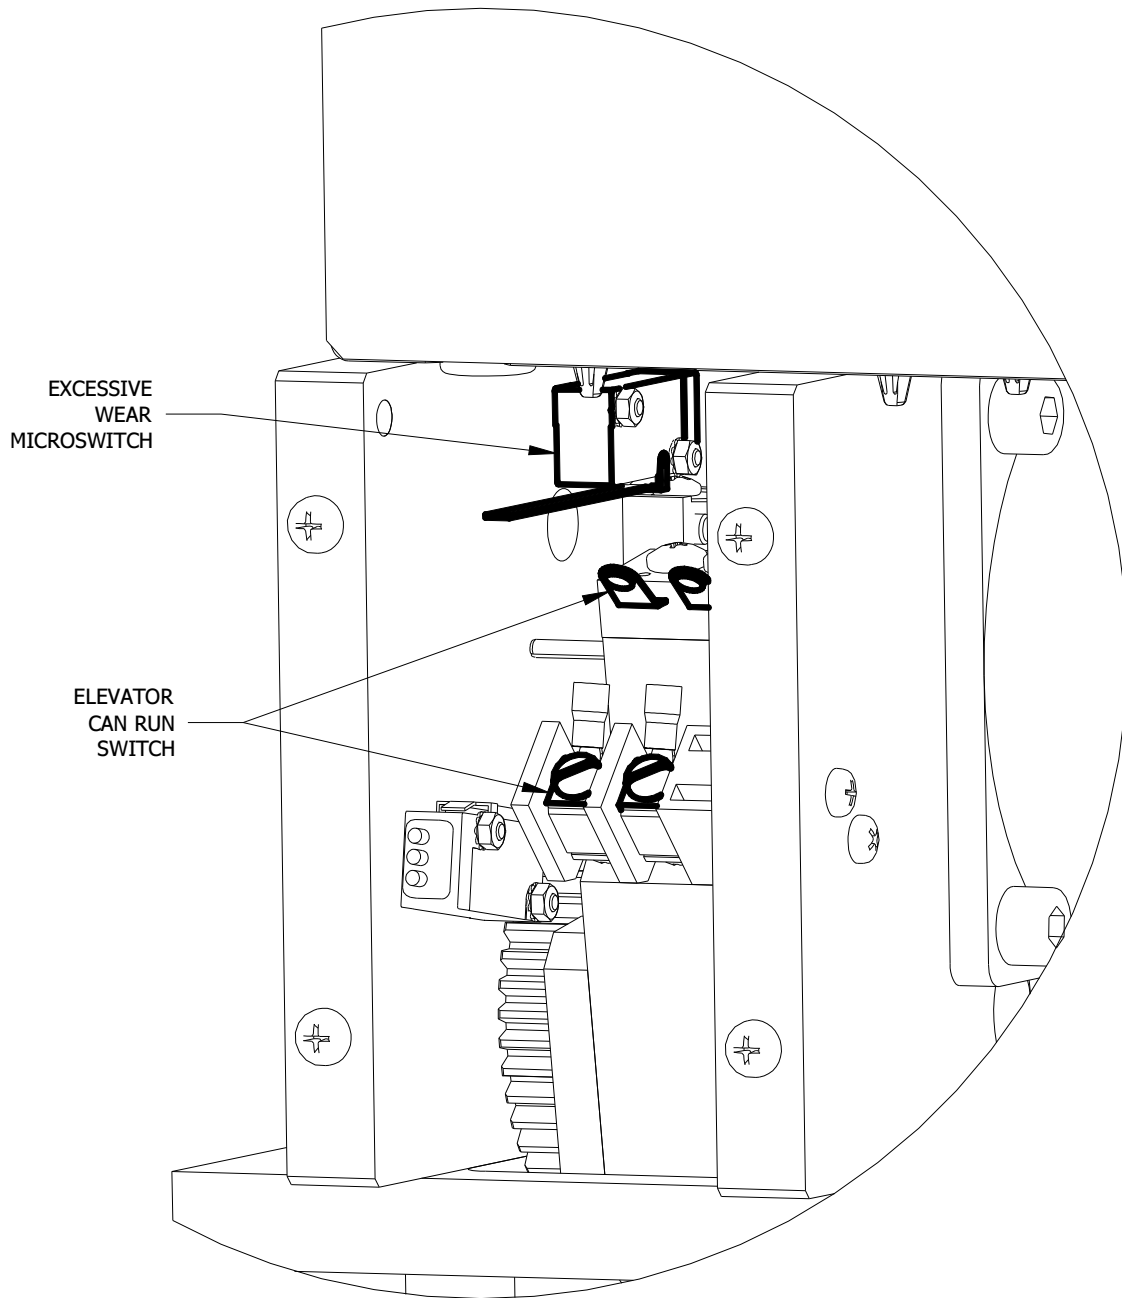

Figure 4
- Turn test switch to OFF. This should activate the “ROPE GRIPPER™”, clamping the ropes. Be sure that while clamping the ropes, the Elevator Can Run switch (see Figure 4 on p. 5) contacts on the “ROPE GRIPPER™” stop or prevent power from being applied to the motor and machine brake.
The linings will wear, especially after multiple high-speed stops. When clamping, the rotating shaft will move towards the upper end of the cam as the linings wear. Near the end of the cam, the excessive wear microswitch (see Figure 4, p. 5) will open and the “ROPE GRIPPER™” will not automatically reopen (reload).